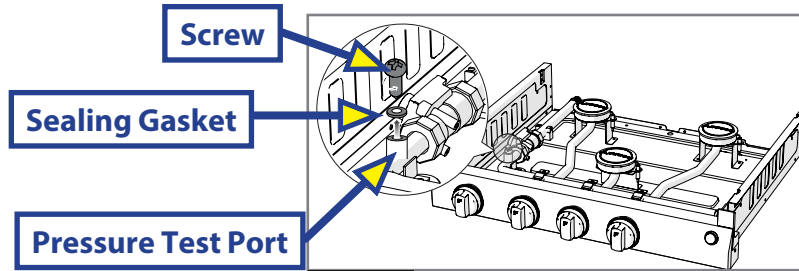

Fig. 1
2. Remove the Screw with the sealing gasket from the pressure test port on the range. (Fig. 1)